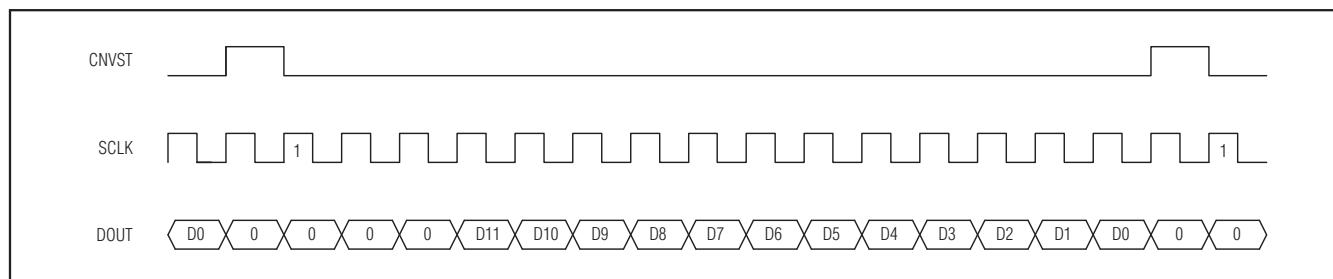

Figure 17. DSP Interface—Continuous Conversion
The MAX1277/MAX1279 can also be connected to the TMS320C54\_ by using the data transmit (DX) pin to drive CNVST and the CLKX generated internally to drive SCLK. A pullup resistor is required on the CNVST signal to keep it high when DX goes high impedance and 0001hex should be written to the DXR continuously for continuous conversions. The power-down modes may be entered by writing 00FFhex to the DXR (see Figures 17 and 18).
ters should be configured for late framing (LAFR = 1) and for an active-low frame (LTFS = 1, LRFS = 1) signal. This is also the best way to enter the power-down modes by setting the word length to 8 bits (SLEN = 1001). Connect the VL pin to the ADSP21\_ \_ \_ supply voltage when the MAX1277/MAX1279 are operating with a supply voltage higher than the DSP supply voltage (see Figures 17 and 18).